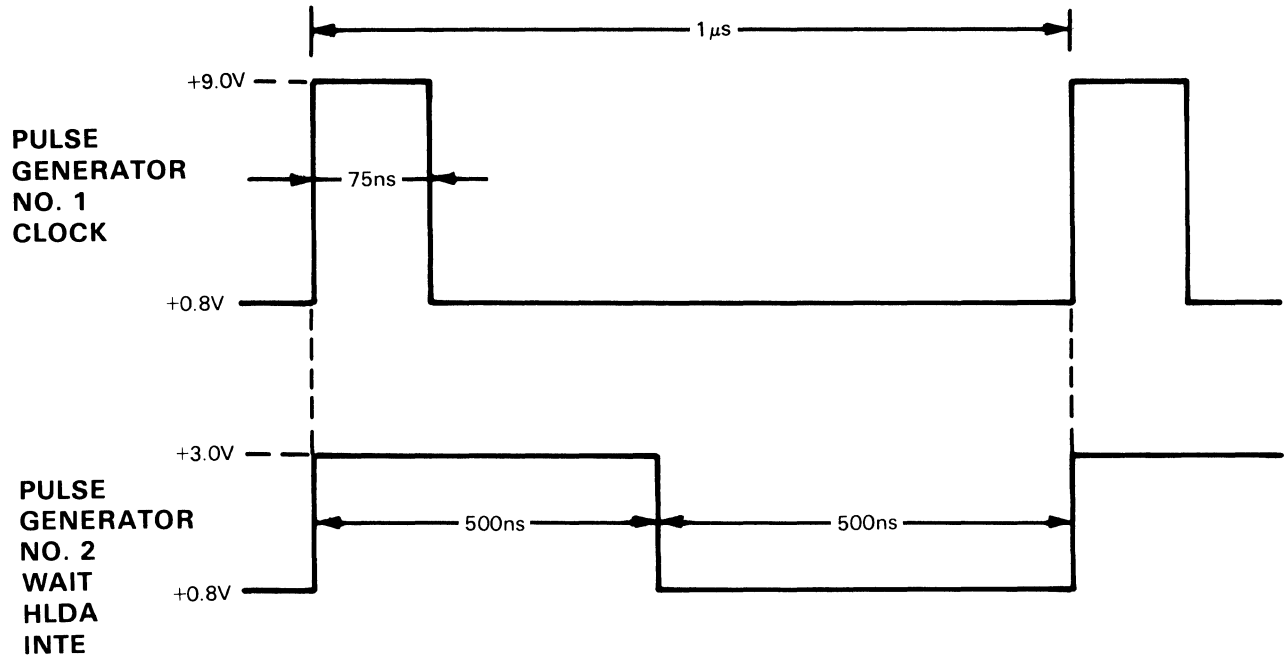

Figure 4-5. Wait, HLDA, and Inte Test Waveforms
- Adjust pulse generators for waveforms shown in figure 4-5.